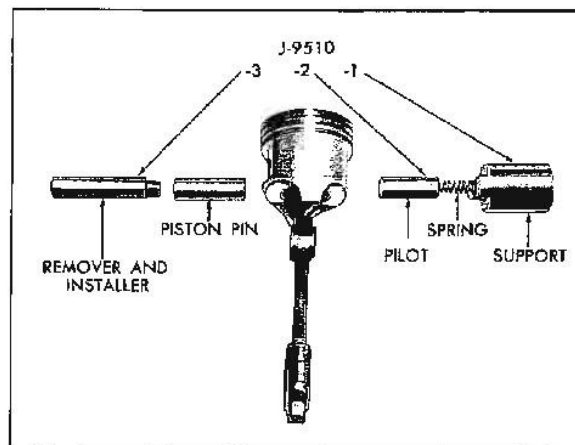

Fig. 6-65 Piston Pin Replacement
3. Install piston pin on installer and pilot spring and pilot in support (Fig. 6-65). Use piston pin removing and installing tool J-9510.